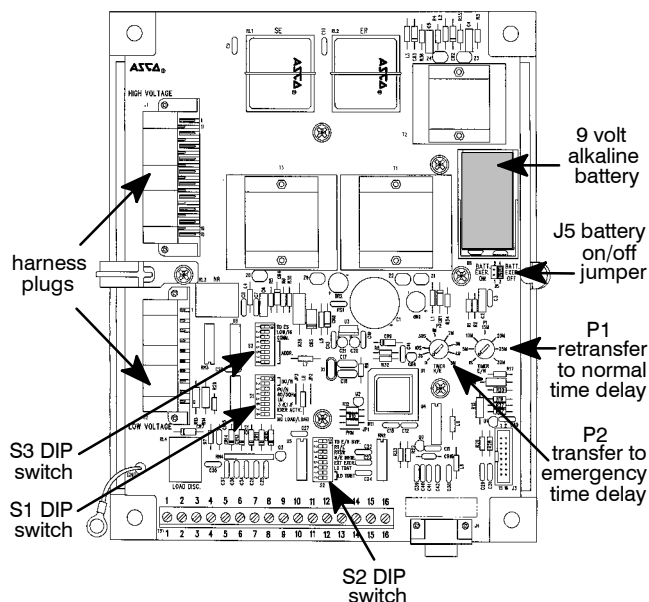
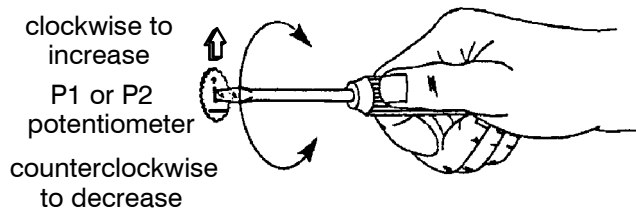
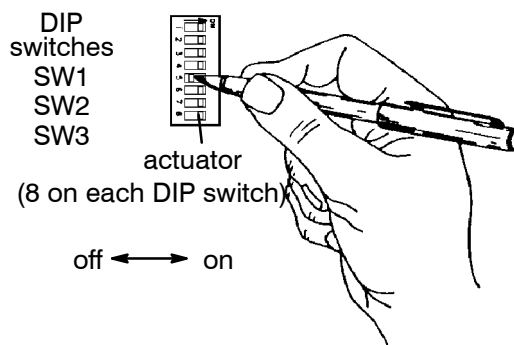

Figure 4-2. Location of potentiometers, DIP switches, battery, and battery jumper.
Figure 4-3. Changing time delay potentiometers.
Figure 4-4. Setting DIP switch actuators.
4. Locate the appropriate adjustment potentiometer or DIP switch for the setting that you want to change. Refer to Table 4-1 and Table 4-2 on page 4-1 and Figure 4-2, Figure 4-3, Figure 4-4 on page 4-2.
5. Use a small screwdriver to turn the potentiometer clockwise to increase the time delay or counterclockwise to decrease it. See Figure 4-3.
6. Use a ball-point pen (or similar pointed tool) to slide the switch actuators left or right so they match the illustration next to the setting (left = off, right = on). Recheck the setting. See Figure 4-4.
The engine exerciser included in ASCO Series 300 Automatic Transfer Switches provides a once a week 20-minute exercise period. It occurs immediately when the SET ENGINE EXERCISER push button is pressed (and held for at least 5 seconds), and then at the same time weekly thereafter. A 9 volt alkaline battery (*Duracell*® MN1604, *Everready*® 522, or *Panasonic*® 6AM6) is furnished and installed in the controller to maintain the setting. The battery jumper block must be shifted to the ON position. See Figure 4-2 on page 4-2.